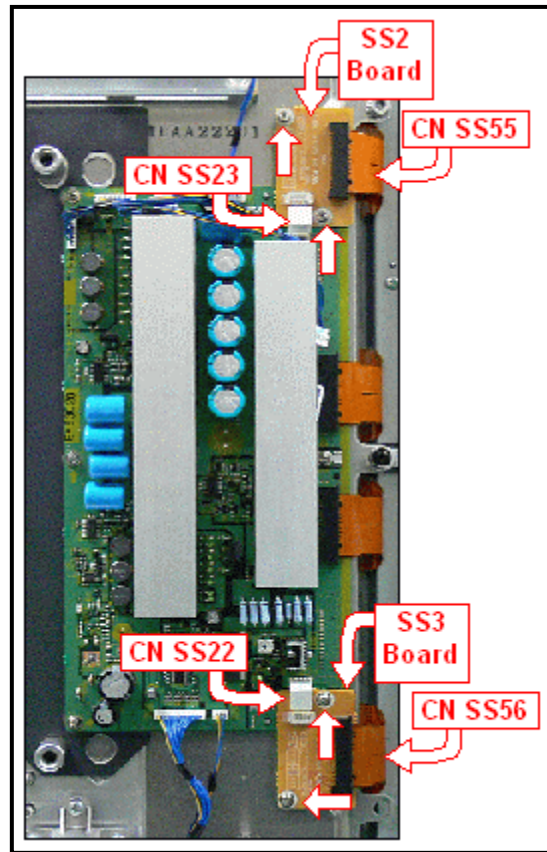

Figure 17. SS2 and SS3 boards
2. Disconnect the flexible cable (SS55). See figure 17 and 17B.
2. Disconnect the flexible cable (SS56). See figure 17 and 17B.